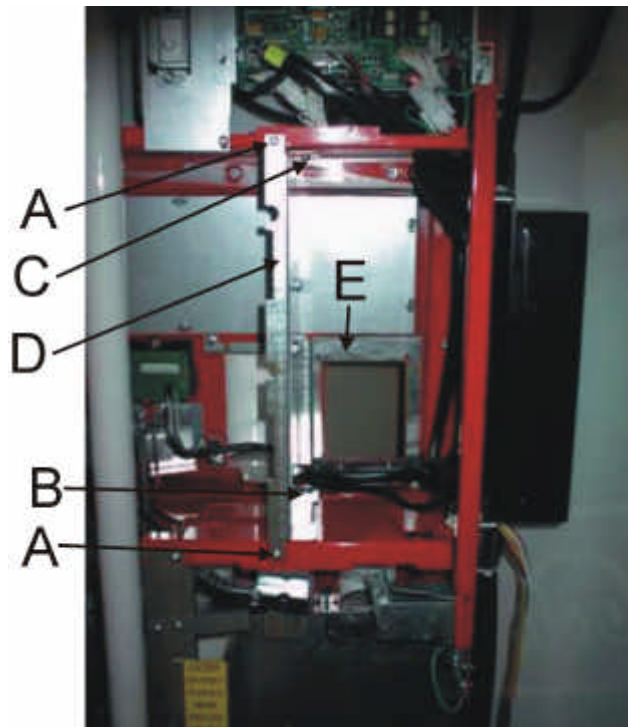

Figure 2
8. Install new bill validator guard using the following steps. (See D, figure 2 on page 2.)
- B. Install front two screws. (See A, figure 2 on page 2).
- E. Insert a carriage bolt (900,201,56x.x1) and keps nut (900,800,67x.x1) to secure. (See B, figure 2 on page 2.)
- F. Insert screw in the top rear hole. (See C, figure 2 on page 2.)
10. Install the bill validator guard extension. Secure the bill validator guard extension to the bill validator guard using three carriage bolts (900,201,54x.x1) and keps nuts (900,800,67x.x1). (See E, figure 2 on page 2.)